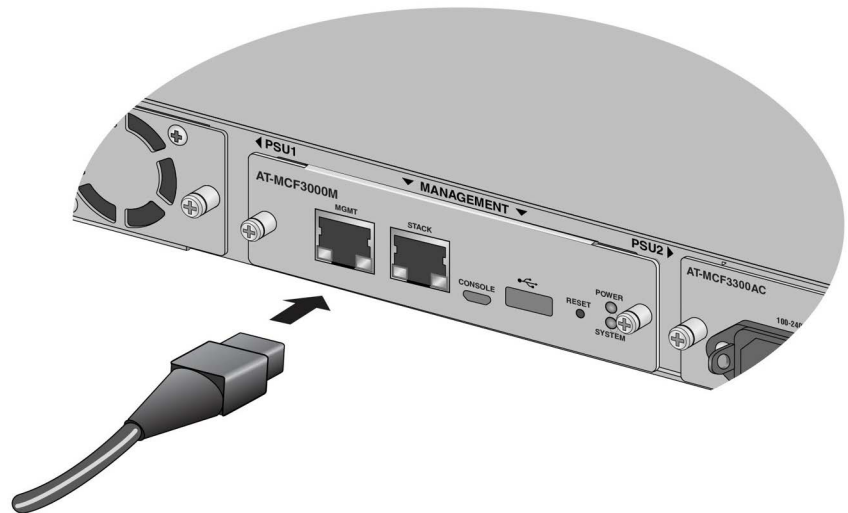

Figure 54. Cabling the MGMT Port on the MCF3000M Management Module
1. Attached an Ethernet cable to the MGMT port. Refer to Figure 54.